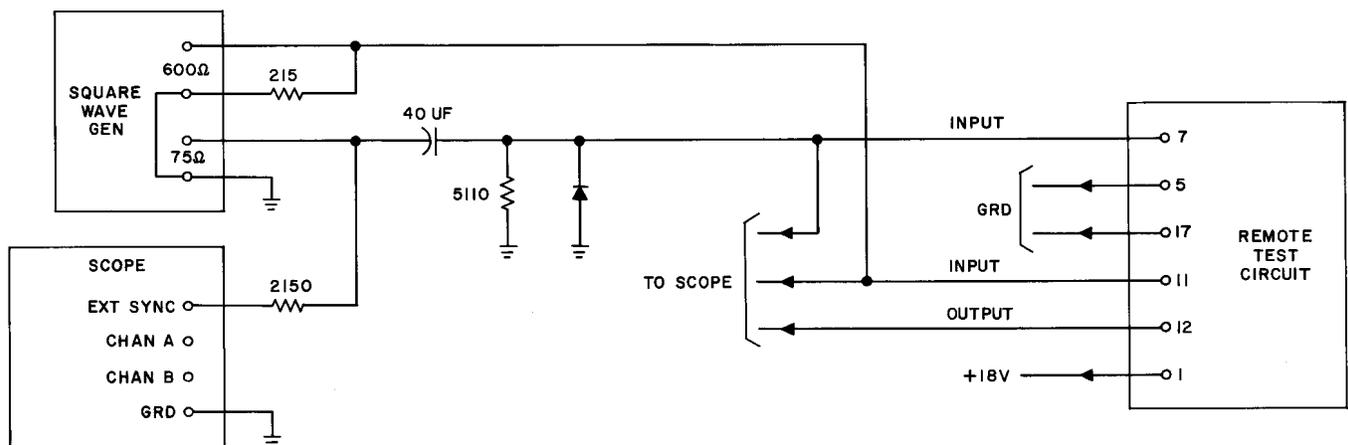

Fig. 52A — Remote Test Circuit Pack, Test Circuit
- (5) Connect the circuit pack to the suggested test circuit shown in Fig. 52A.